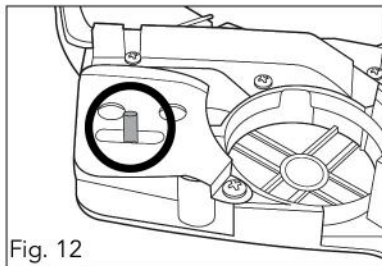

Fig. 12
8. Correctly position the chain tensioning pin on the inside of the side cover (12) before fitting to the chainsaw (fig. 12).